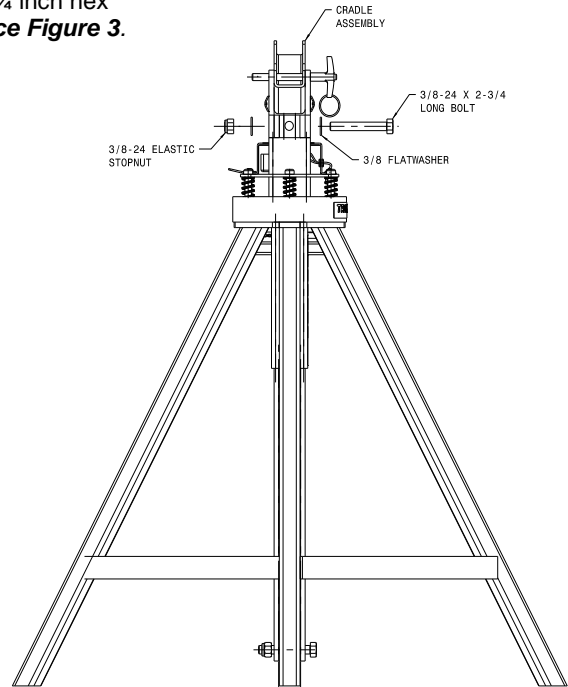

FIGURE 3
2. Fasten cradle assembly to extension tube with one (1) 3/8 - 24 x 2 3/4 inch hex head bolt, 3/8 inch flatwasher, and 3/8 - 24 elastic stopnut. **reference Figure 3.**